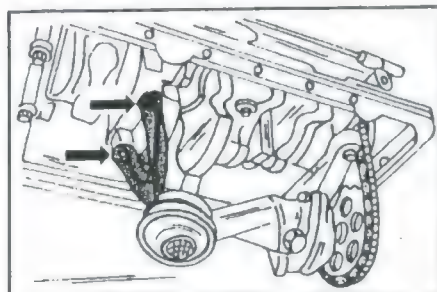

Fig. 1.77 - Remove the support bridge at the points shown by the arrows when removing the oil pump (5-cyl).
- Remove the socket head bolts and take off the pump. Three bolts are used. Two on one side and one on the other side. Fig. 1.76 shows the fitted pump, as seen onto the open crankcase. In the case of the five-cylinder engine a support bridge is fitted to the pump and the bottom of the crankcase, as can be seen in Fig. 1.77, which must also be removed. Also on this engine remove the inlet manifold support bracket.